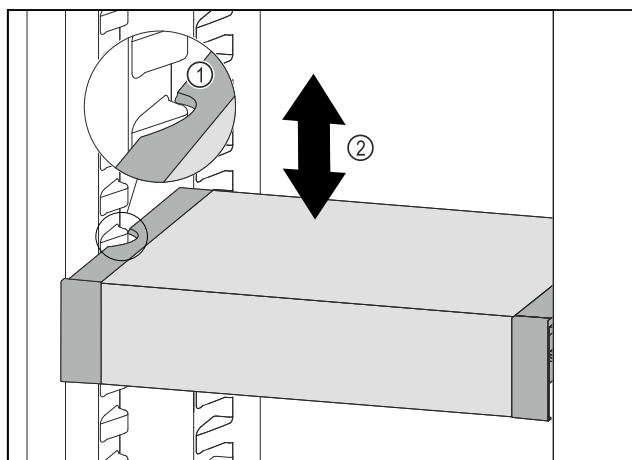

Fig. 63
- Pull VarioSafe forwards until the recesses in the side of the VarioSafe are at the level of the support rib in the refrigerator compartment. *Fig. 63 (1)*
- Move VarioSafe up or down in the refrigerator compartment until the desired height is reached. *Fig. 63 (2)*